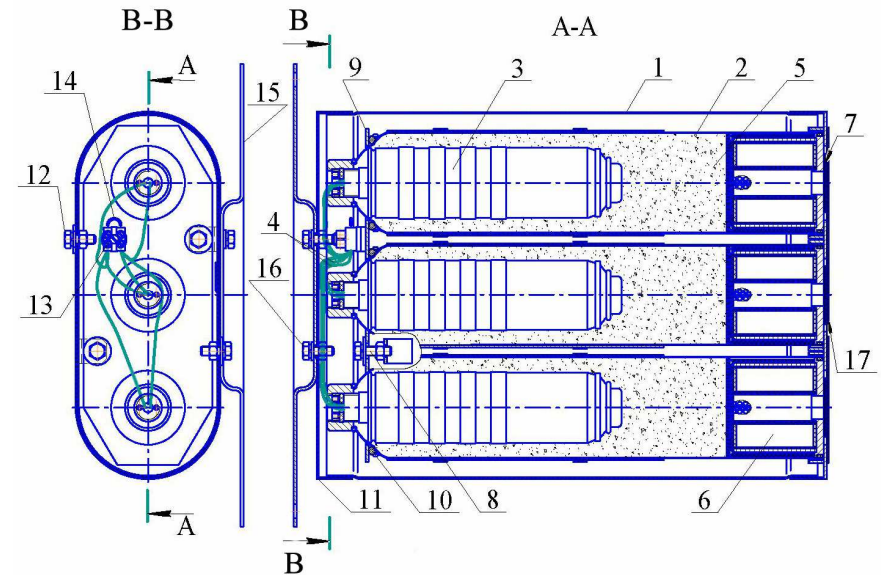

Figure 1
4.1.1 GGFE (see Figure 1) consists of a case **1** where three replaceable cartridges **2** containing gas-generating element **3** with electrical-triggering element **4** is placed. Free space of cartridges cases **2** is filled with cooling tablets **5**. Filter-separator **6** is set in each cartridge for gaseous firefighting substance cleaning from mechanical impurities. Filter-separator outlet hole is plugged with self-adhesive film PVC **7**. In the upper part of the case cartridges are tightened with cover **9** by means of screws **8**. To compensate an influence of vibration, rubber rings **10** are set between cartridges **2** and cover **9**. GGFE is covered with a lid **11** tightened with screws **12**. Bared ends of wires of electrical triggering elements **4** are twisted in two groups: one wire from each cartridge, and tinned after twisting, and are fastened in contact screw clamp **13**. Clamp **13** output terminals are closed with wire **14**. GGFE is supplied with bracket **15** which is mounted to lateral surface of case **1** or lid **11** with screws **16**. To avoid self-adhesive PVC film **7** rupture during transportation, storage and installation the apertures of case **1** bottom parts are plugged with self-adhesive film **17** which is removed after device installation in the object.
- Remove GGFE with bracket **15** from a bearing surface (see Figure 1), remove lid **11** from GGFE, disconnect launching cable, and carry the generator to assembling room:
6.1 Unpack GGFE and examine the integrity of case. Take off lid **11** (see Figure 1) by removing screws **12**. Check the reliability of bared ends of electrical triggering elements **4** in contact screw clamp **13**.